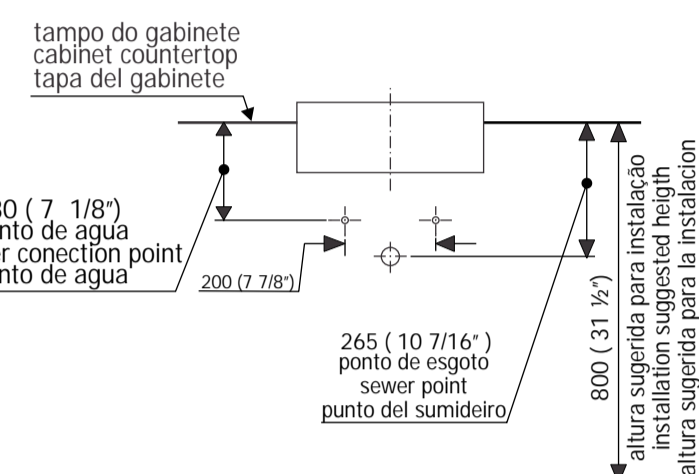

Fig 5
- 7 - Aplicar adesivo silicone nas faces de contato da cuba com o tampo e a parede. Encaixar a cuba no tampo e pressioná-la contra o tampo e parede conforme fig. 5.
- 7 - Apply silicone adhesive on the contact faces of the lavatory with the countertop. Place the lavatory on the countertop and press it. According to fig. 5.